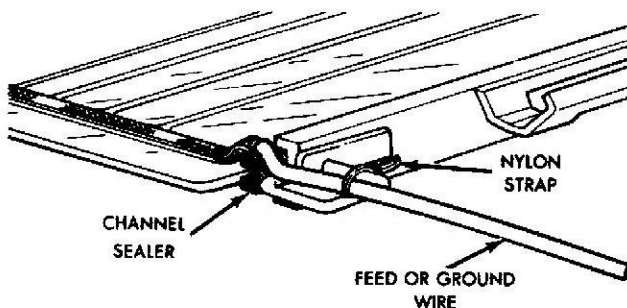

Fig. 1 Defogger Wire Interference
- (1) Remove tailgate glass and channel assembly as outlined in appropriate Jeep Technical Service Manual.
- (2) If wire(s) requiring repair is not broken, remove nylon strap and cut wire(s) adjacent to tailgate glass lower channel (see fig. 1).